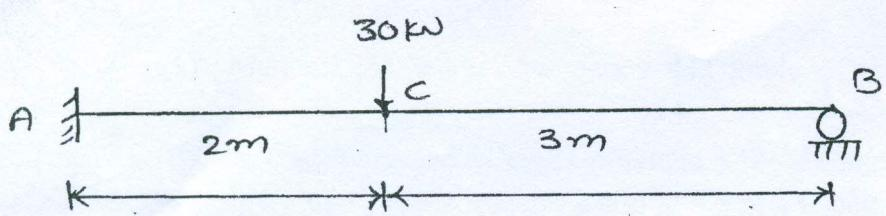

Fig. 11
- (C) Determine the reaction components for fig.11. by Fixed beam method. EI is constant. [5]